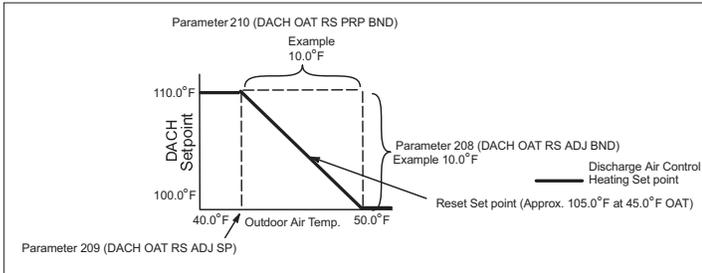

**Figure 46. Discharge Air Control Heating Stages - Default Values Shown**
- Refer to “Figure 46. Discharge Air Control Heating Stages - Default Values Shown” for Discharge Air Control Heating stages.